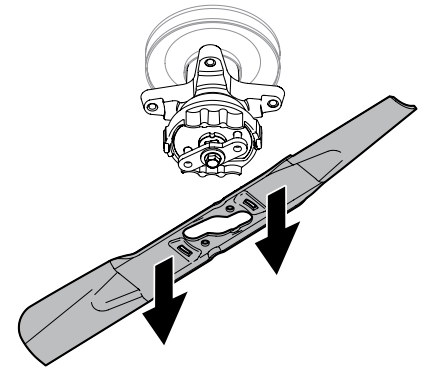

Figure 4-8
- When the hole in the center of the blade aligns with the rider blade retainer, carefully lower the blade. See Figure 4-8.